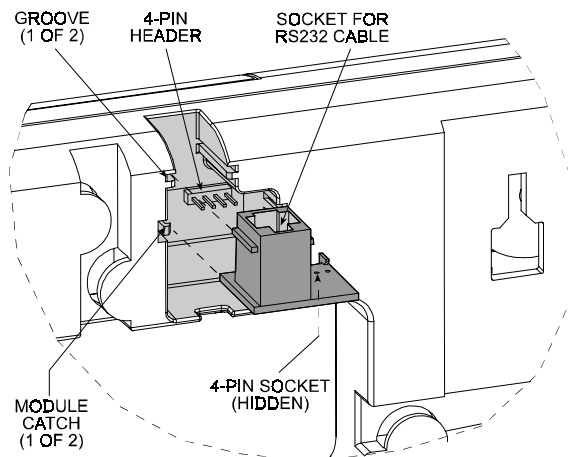

Figure 29. Inserting the RS232 Module
- C.** Align the RS232 module with the grooves and the module catches as shown in Figure 29.